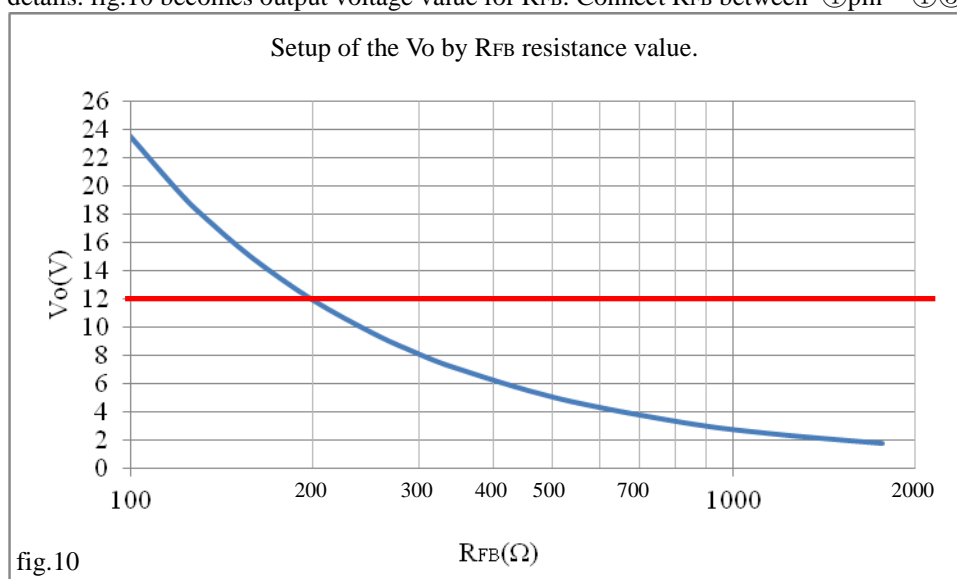

fig.10
As for details, please refer to the fig.10.
•If output impedance of the VIN power supply is ideally endless and it is near-zero, the ripple-current doesn't flow to Cin. To make stabilize movement of MPM01/04, You must connect the input capacitor "Cin" between ②pin to ①③pin in the shortest path. As for Cin, The withstand-voltage and allowable ripple-current ask for the selection which has a margin.
•The ripple-current that is switching frequency flows to output-capacitor "Co".Refer to an application notebook for the way of calculating the output-ripple-current. As for Co, Use the capacitor which has low-impedance character for the switch mode power-supply. To reduce the output-ripple-noise, You must connect the output capacitor "Co" between ⑤⑥⑦pin - ①③pin at shortest. As well as the case of Cin , The withstand-voltage and allowable ripple-current ask for the selection which has a margin.
**(3) Output voltage setup resistor RFB**
•With MPM01/04, An output voltage Vo can be set up by adjusting RFB. Refer to an application notebook for the details. fig.10 becomes output voltage value for RFB. Connect RFB between ④pin - ①③pin at shortest.